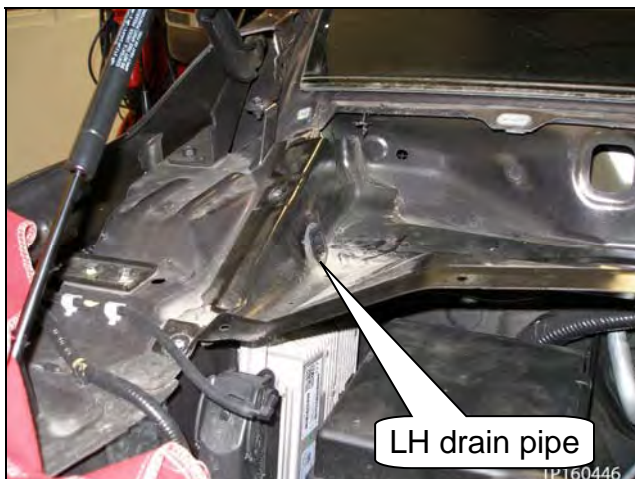

Figure 112
- a. Install the cowl top extension with the eight (8) bolts, and then install both drain pipes (see Figure 110, # 3 & 5, and Figure 112 and 113).